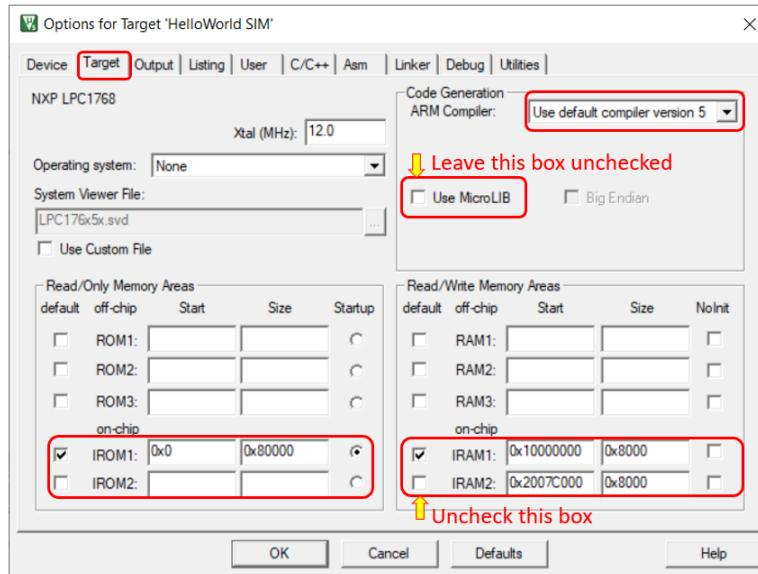

Figure 8.14: Keil IDE: Target Options Target Tab Configuration
3. Configure the Target tab as shown in Figure 8.14. We want to use the default version 5 arm compiler. We also want remove the IRAM2 from the default setting.
The default image memory map setting is that the code is executed from the ROM (see Figure 8.14). Since the ROM portion of the code needs to be flashed in order to be executed on the board, this incurs wear-and-tear on the on-chip flash of the LPC1768. Since most attempts to write a functioning RTX will eventually require some more or less elaborate debugging, the flash memory might wear out quickly. Unlike the flash memory stick file systems where the wear is aimed to be uniformly distributed across the memory portion, this flash memory will get used over and over again in the same portion.